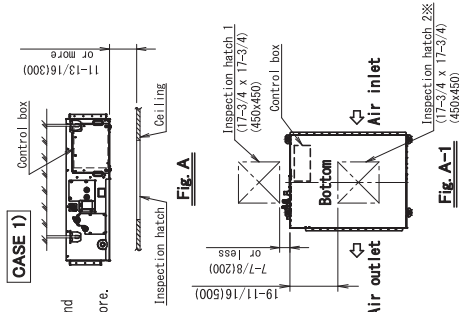

Fig. A-1
1) Inspection hatch 1 and 2 (17-3/4 x 17-3/4) (450x450) (Fig. A-1) and a space of 11-13/16(300mm) or more under the unit. (Fig. A) (Note) Inspection hatch 2 is not needed when there is a space for service work under the unit.